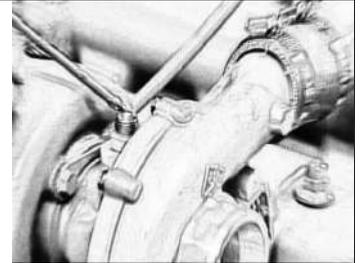

Fig 5-31 Turbo-charger Oil Inlet Pipe Installation
3.2.3 When installing oil inlet pipe, add suitable oil into oil inlet of turbo-charger, then tighten oil Inlet pipe (see Fig 5-31).